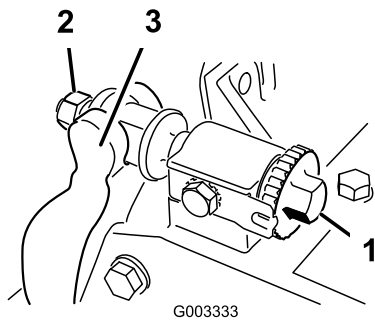

Figure 60
1. Turn the bedbar adjuster screw, counterclockwise, to back the bedknife away from reel (Figure 60).